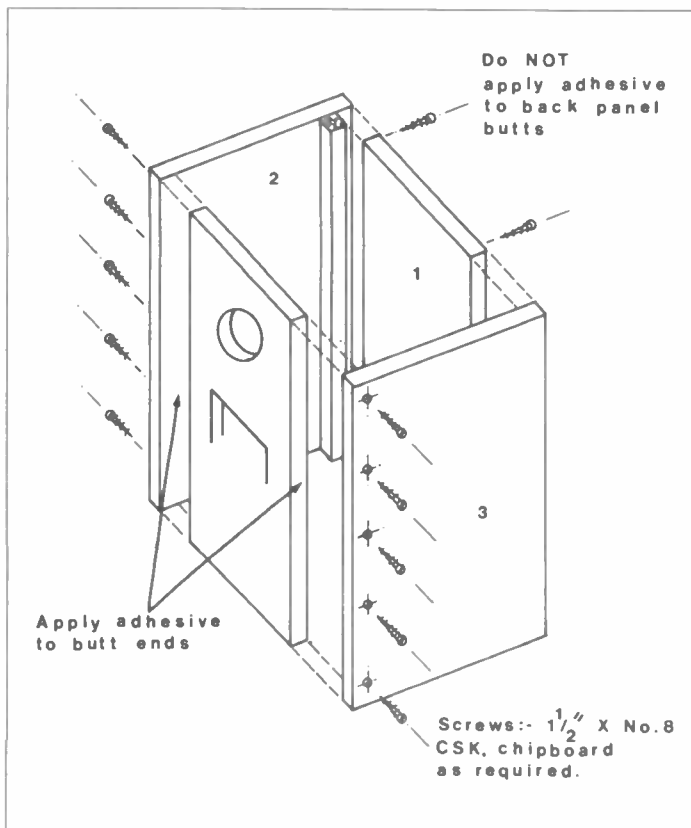
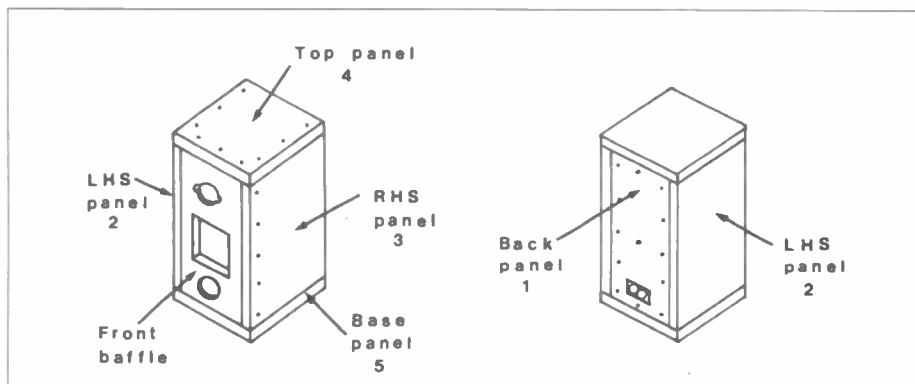

Figure 8. Assembling the panels.
Figure 9. Completed cabinet.
Figure 8 shows assembly details for the panels. Either large 'sash' clamps or chipboard screws can be used for holding panels together while the glue dries, but do not apply glue to the back panel (1). The use of screws is not recommended on pre-finished or laminated panels unless screw heads appeal to the constructor! Also note that plastic laminated edges butting up together cannot be glued successfully, although wood veneer will be O.K. On side panels (2) & (3), drill 5 clearance size holes along the front edge only, approximately 9mm in from the edge, and counter sink each hole. Apply a liberal amount of glue to the long edge of the front baffle on the right hand side and offer up panel (3). Insert screws and repeat the procedure for panel (2). Temporarily place back panel (1) between the side panels to space them apart evenly and tighten all screws. Remove excess glue exuding from the front joints with a damp cloth and while the assembly is drying, drill and counter sink end panels (4) & (5) as before. Do not drill along the back edge, only along the front and sides. Apply glue to the assembled side and front panels along the top edges, but not the back panel and offer up panel (4). Fit all screws and remove the back panel which may now need cleaning, and wipe away excess glue from all but joints. Turn the assembly over and fit panel (5) as before. Figure 9 shows a completed cabinet.